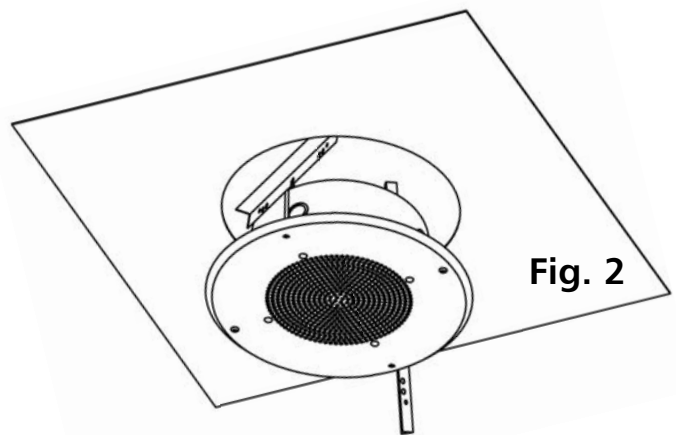

Fig. 2
- Fig. 2- Maneuver the support channels through the access hole